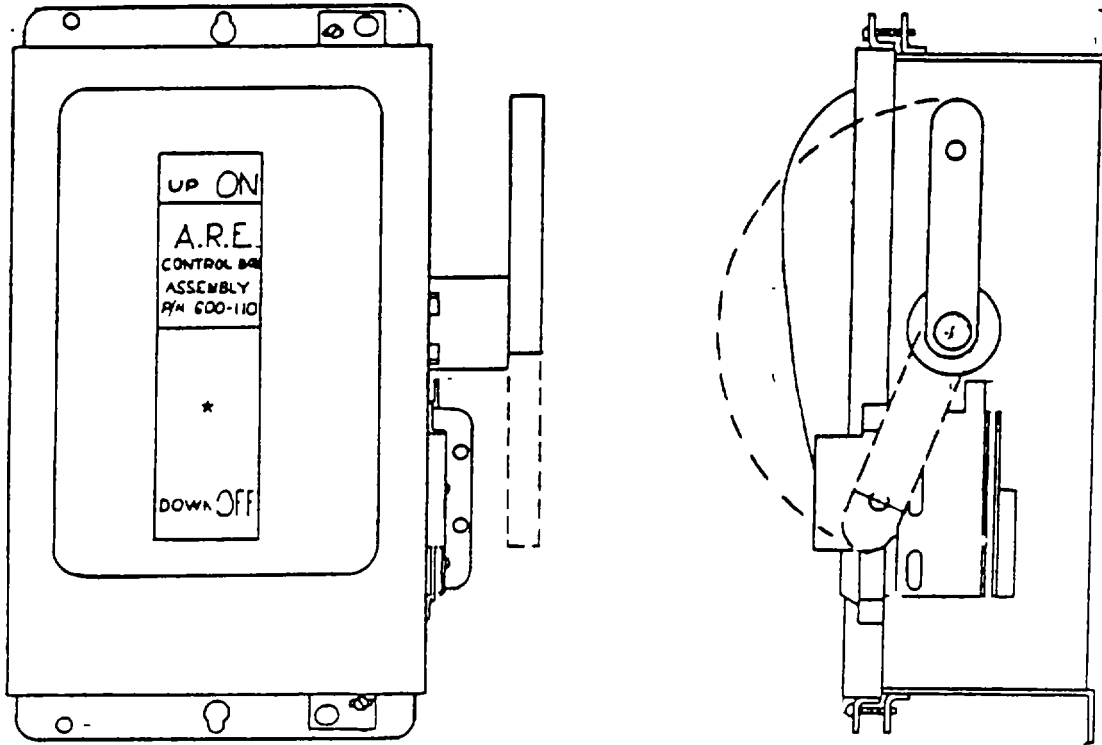

FIGURE 4
- 1) Assure, by visual inspection, that the disconnect switch handle located in the lower front compartment panel is in the "OFF" position. See Figure 4.
- 2) Upon completion of (1) above, the removal of the compressor compartment panel can now be accomplished by the removal of two (2) screws which include washers.
- 3) Upon accomplishment of (2) above, the compressor which is color coded green includes a discharge and suction valve integrally attached to the compressor, color coded by a bronze alloy color, located at the bell of the compressor and between the cylinder heads of the compressor, requires back seating. The stems of both valves should be turned counterclockwise until full back seating has been accomplished.
- 9) Engage unit disconnect switch. See Figure 4.